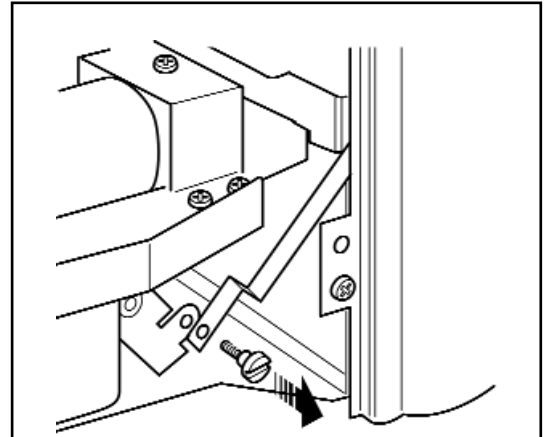

Figure 39. Control linkage disconnection (Fascia may differ from that shown)
2. Remove the knurled screw securing the control linking arm to the burner (See figure 39).